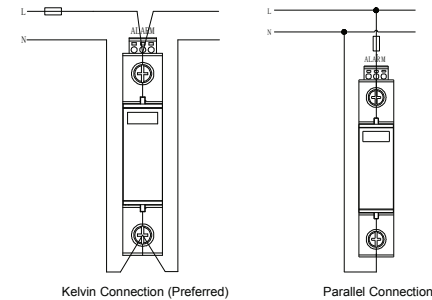

Figure 3 - Wiring Diagram
2. Wiring: The SPD shall be installed in parallel with the load or electrical system wiring using #6 AWG stranded (#4 AWG solid) wire. The torque to be applied to the terminal screws is 3.3 lb-ft (4.5 Nm). Interconnecting wire should be no longer than 20" (500mm) in total length with a maximum bend radius of 4" (100mm). Strip the wire insulation 5/16" (10mm). Do not loop or twist the interconnecting wire. Determine the electrical configuration and wire as shown in Figure 3.